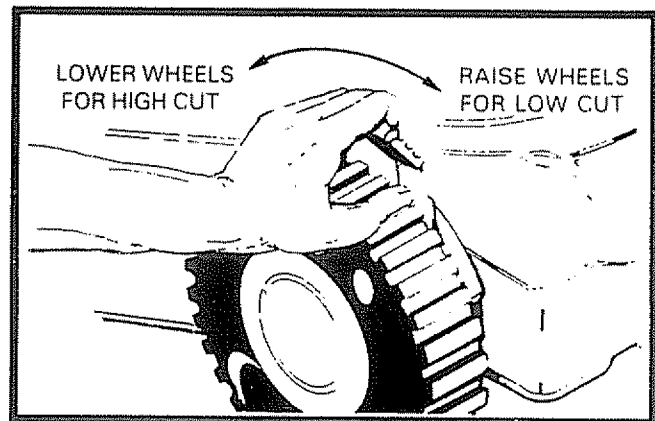

FIG. 4
- To change cutting height, squeeze adjuster lever toward wheel. Move wheel up or down to suit your requirements. Be sure all wheels are in the same setting (See Fig. 4).